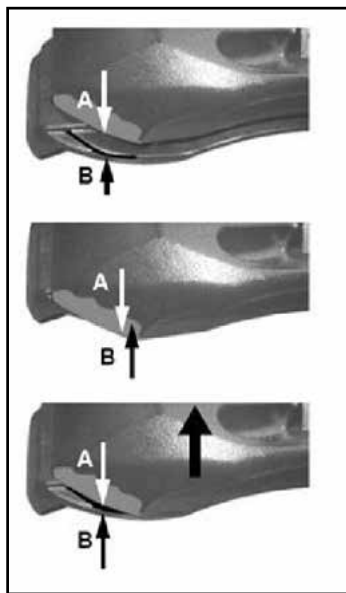

Figure 17
- d. An indication on the degree of pad wear can be obtained without removing the wheels in following manner as pictured in **Figure 17**.